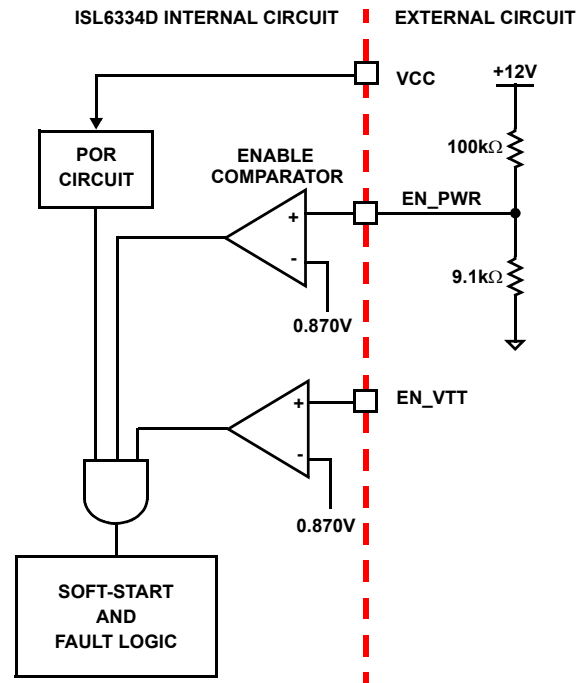

FIGURE 11. POWER SEQUENCING USING THRESHOLD SENSITIVE ENABLE (EN) FUNCTION
2. The ISL6334D features an enable input (EN\_PWR) for power sequencing between the controller bias voltage and another voltage rail. The enable comparator holds the ISL6334D in shutdown until the voltage at EN\_PWR rises above 0.870V. The enable comparator has about 130mV of hysteresis to prevent bounce. It is important that the driver reaches its POR level before the ISL6334D becomes enabled. The schematic in Figure 11 demonstrates sequencing the ISL6334D with the ISL66xx family of Intersil MOSFET drivers, which require 12V bias.